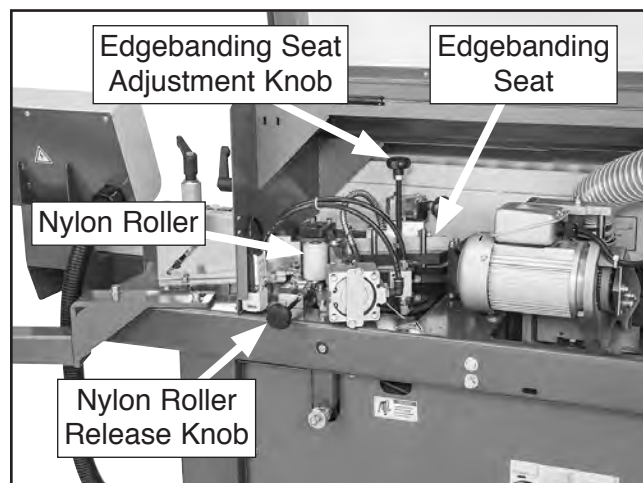

Figure 57. Edgebanding tape advanced to forward end of edgebanding seat (viewed from rear of machine).
6. Rotate edgebanding seat adjustment knob (see **Figure 57**) clockwise to raise upper portion of seat and allow room for edgebanding tape.
7. Move nylon roller release knob to the right and manually advance edgebanding tape all the way forward, past nylon roller, to end of edgebanding seat (see **Figure 57**).